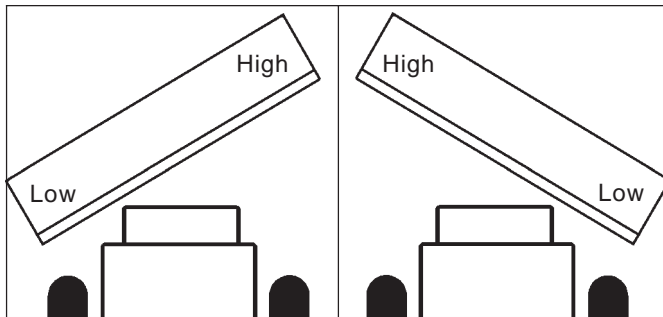
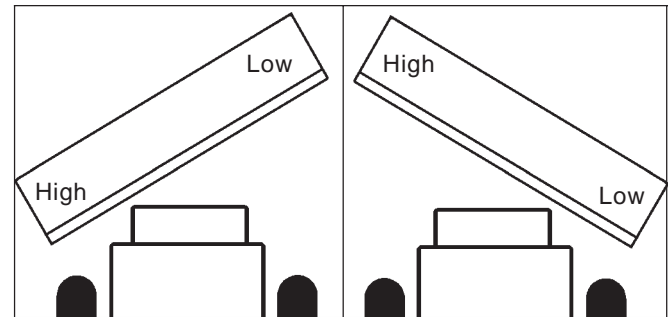
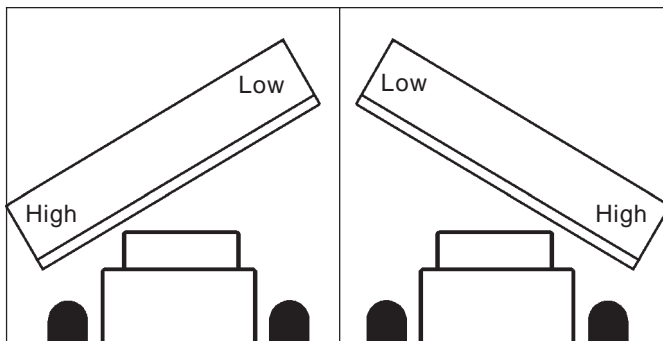
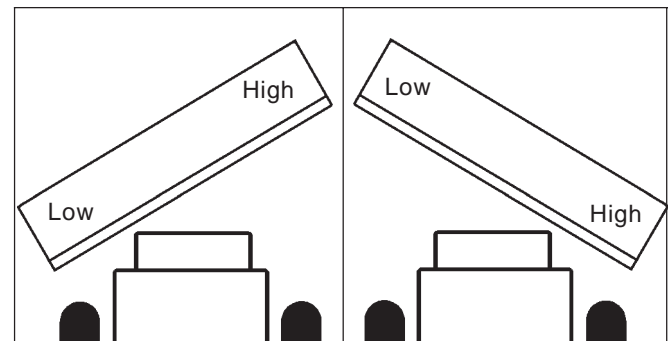

figure 18
figure 20
figure 19
figure 21
- figure 18, turn leveling screws out. (figure 20, A)
- figure 19, turn leveling screws in. (figure 20, A)
- figure 20, turn the adjustment screw in. (figure 20, B)
- figure 21, turn the adjustment screw out. (figure 20, B)
- figure 18, turn leveling screws out. (figure 21, A)
- figure 19, turn leveling screws in. (figure 21, A)
- figure 20, loosen hardware that attaches the swing assembly to the brush head assembly; lower the left-hand side of the brush head until both sides are an equal distance above the ground. Tighten the hardware.
- figure 21, loosen hardware that attaches the swing assembly to the brush head assembly; lower the right-hand side of the brush head until both sides are an equal distance above the ground. Tighten the hardware.
- figure 18, extend tilt cylinders.
- figure 19, retract tilt cylinders.
- figure 18, lengthen the hitch toplink.
- figure 19, shorten the hitch toplink.
- figure 20, lower the adjustable 3-Point hitch arm.
- figure 21, raise the adjustable 3- Point hitch arm.